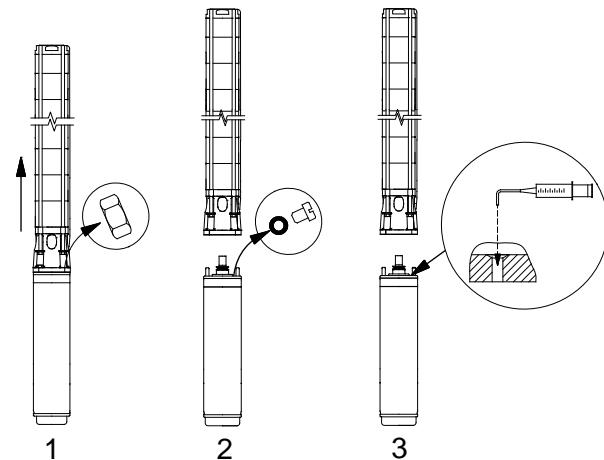

Fig. 3
- If the motor is delivered from stock, the liquid level must be checked before the motor is fitted to the pump, see fig. 3.
- In the case of service, the liquid level must be checked, see fig. 3.
- Position the submersible pump as shown in fig. 3. The filling screw must be at the highest point of the motor.
- Inject liquid into the motor with the filling syringe, fig. 3, until the liquid runs back out of the filling hole.